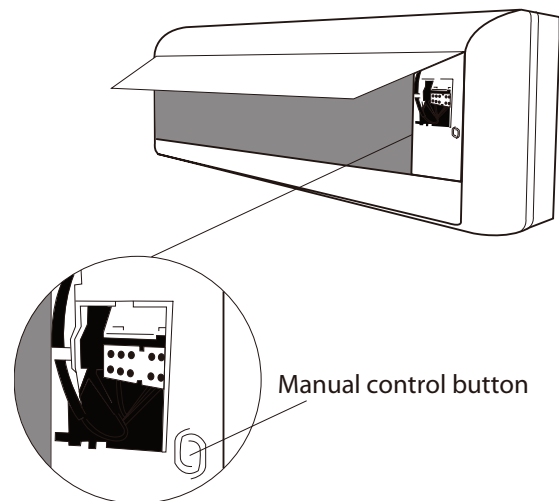

Fig. 8.1
2. The **MANUAL CONTROL** button is located on the right-hand side of the unit. Press it 2 times to select the COOL function. See Fig.8.1